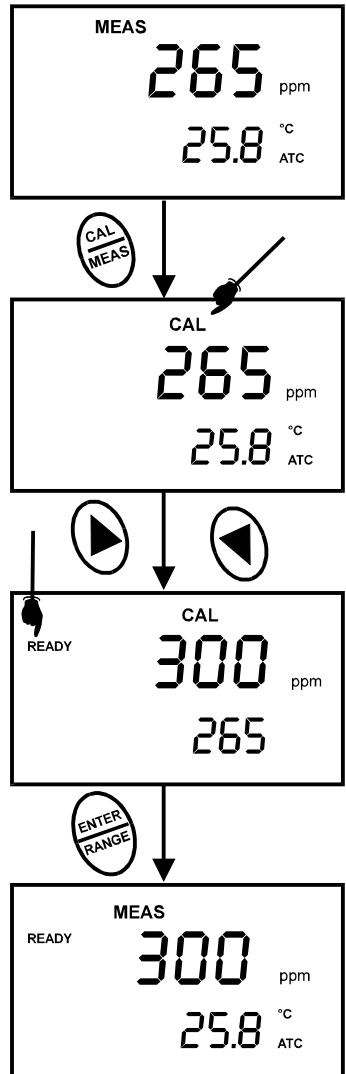

Figure 10 - TDS Calibration
- 6 Press **ENTER** to confirm the calibration value. The meter returns to the MEAS (measurement) mode. See Figure 10.